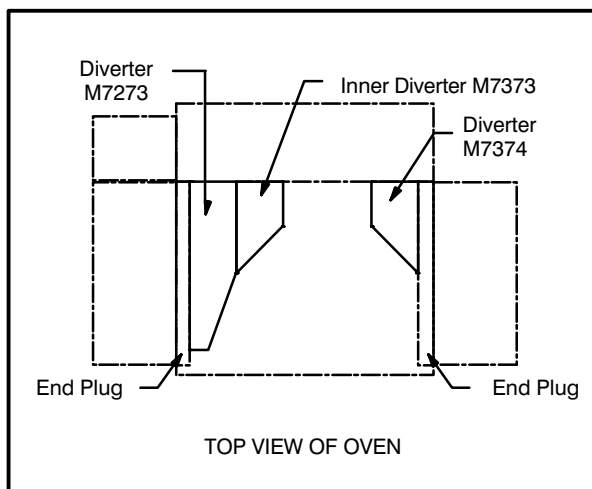

FIGURE 2
2. Lower the front end and slide the diverter into place. Be careful to install the diverters in the correct order as shown in FIGURE 2. Make sure that the edges of the end diverters line up with the cutout in the rear oven wall.